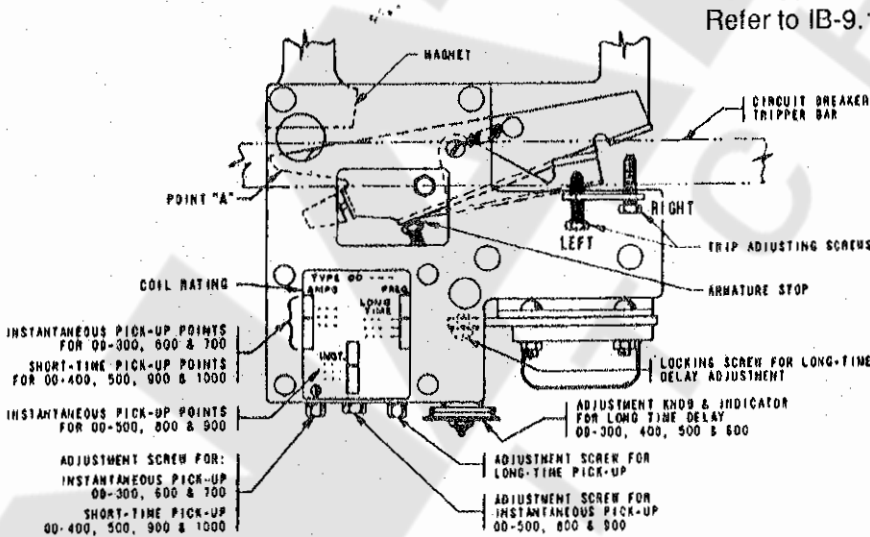

Fig. 10 — Overload Device Adjustments
Long Time Delay Band Adjustment (Figure 10)
Pick-Up Setting Adjustments (Figure 10)
- a. (See Figure 10.) Back out on the two trip adjusting screws until the screws are engaging the nut by approximately two turns.